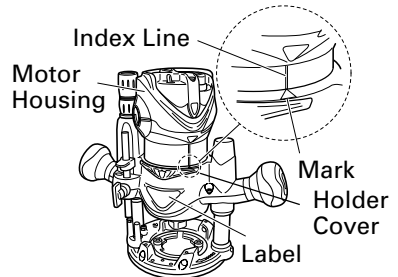

Fig. 2
- (1) Place the plunge base keeping the label front. (Fig. 2)
- (2) Insert the motor housing so that the mark on the holder cover and the index line on the motor housing line up with each other. (Fig. 2)